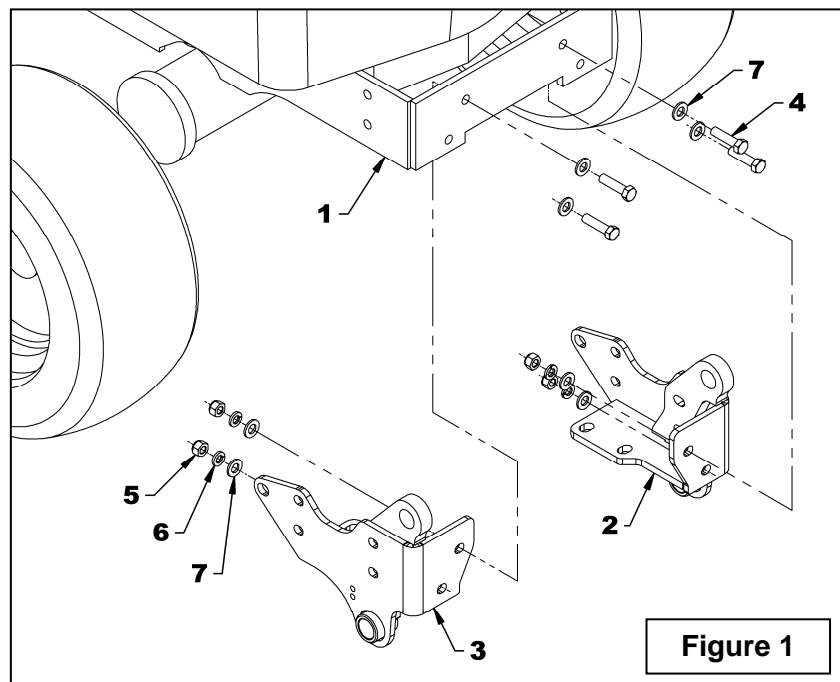

Figure 1
1. Gather items 2 to 7 listed in the table of figure 1.
2. **Figure 1:** Insert the left support (item 2) inside and underneath the tractor frame (item 1) and attach without tightening with two 7/16"NC x 1 3/4" lg hex bolts, four 12mm (Ø13mm int.) flat washers, two 7/16" lockwashers and two 7/16"NC nylon insert nut (items 4-7-6-5).
3. **Figure 1:** Proceed in the same way to attach the right support (item 3).